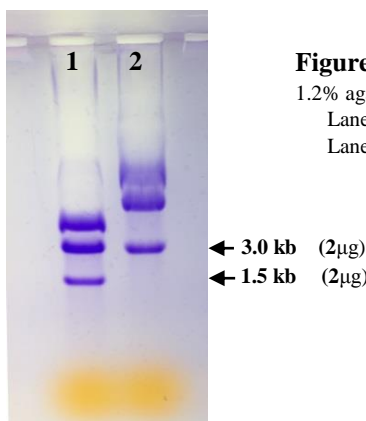

Figure 1. Agarose gel electrophoresis using the gel containing Crystal Violet.
8. Monitor the long ssDNA blue bands moving in the gel during electrophoresis (Figure 1). Stop the electrophoresis after the bands are sufficiently resolved. *11, *12